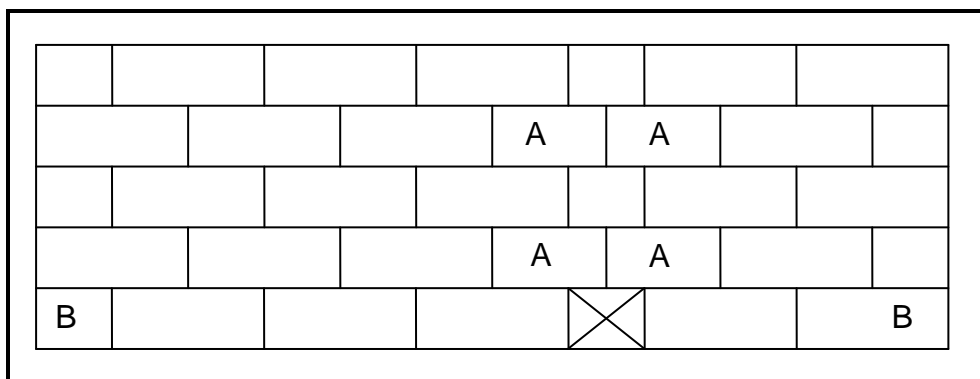

FIGURE 1.8
1.8 FIGURE 1.8 below shows the front elevation of a T-junction of a half-brick wall with dead ends.